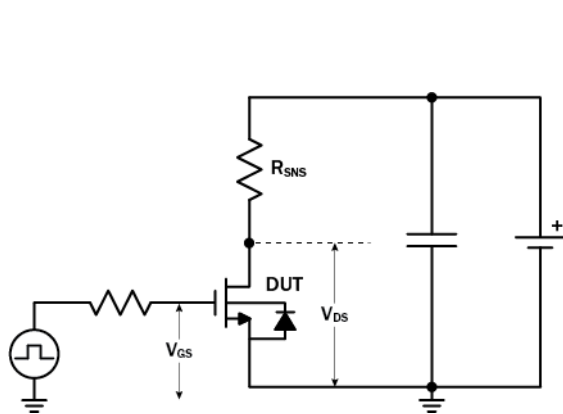

Figure 17. Dynamic $R_{DS(on)}$ Test Circuit
- Dynamic on-resistance; see Figures 17 and 18 for test circuit and conditions